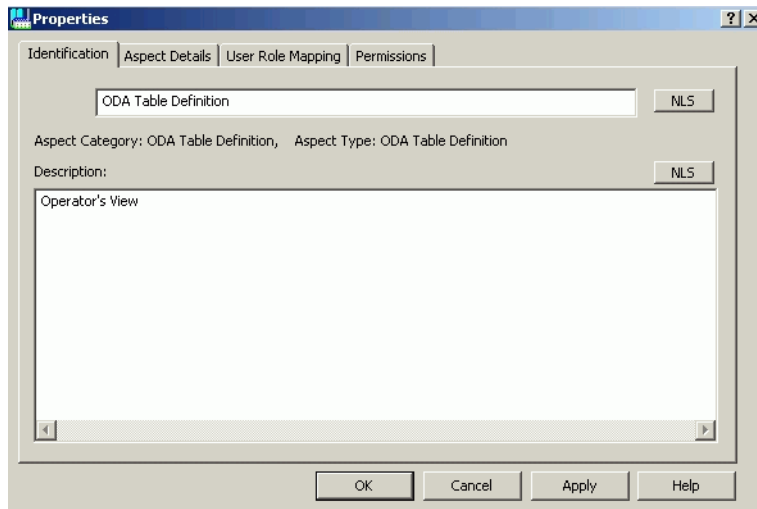

Figure 379. Specifying a Meaningful Description
2. Then use the Description field in the Properties dialog to specify a meaningful description that will help identify the table, Figure 379.